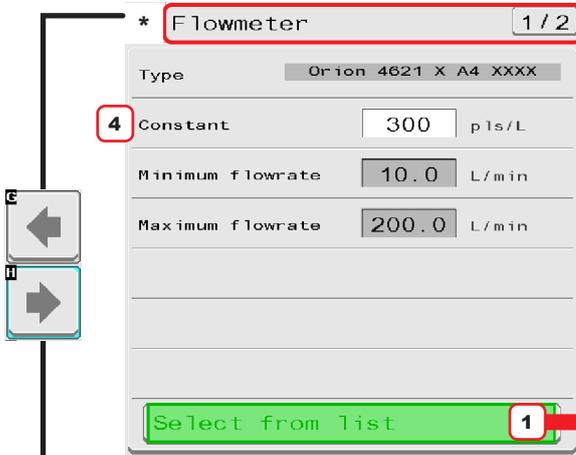
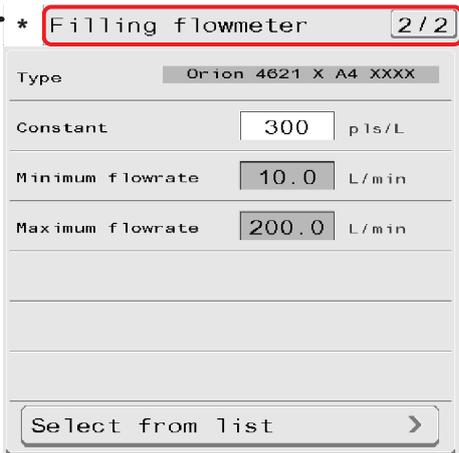

Fig. 39
Fig. 41
* Use keys **H** and **G** to move among the pages of **Flowmeter** (Fig. 39) and **Filling flowmeter** (Fig. 41).